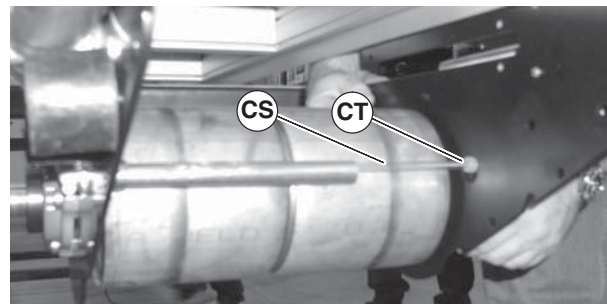

Figure 80
7. Disconnect flexible air hose (Figure 80, item CS) from fitting (CT).